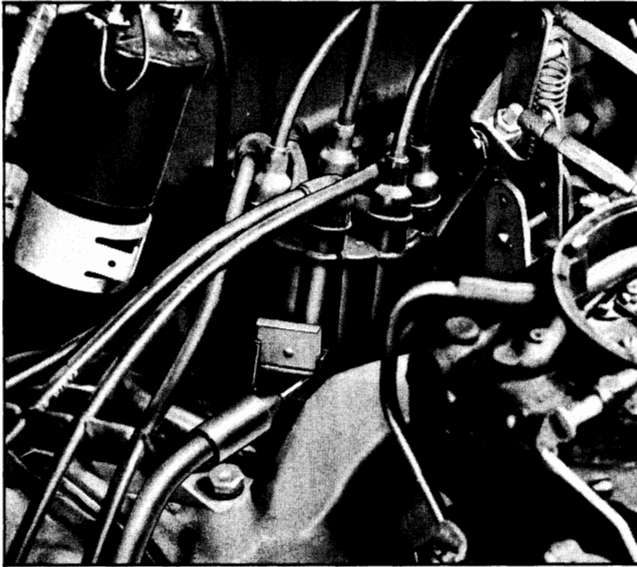

Fig. 11-45 Adjusting Dwell Angle
2. Insert a "Hex" type wrench into the head of the adjusting screw as shown in Fig. 11-45.
2. With the distributor operating turn the adjusting screw (Fig. 11-45) until the proper dwell angle is obtained.